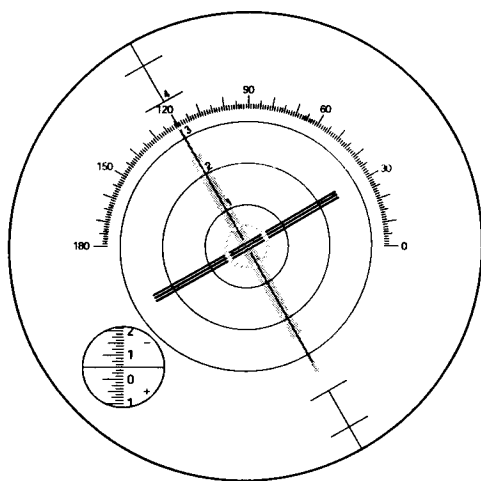

Fig. 5 SPHERO CYLINDER LENS
3. Rotate the axis wheel so that the shorter line target (Sphere target) will come to the same direction as the elongated corona target, and focus it (Fig.5).